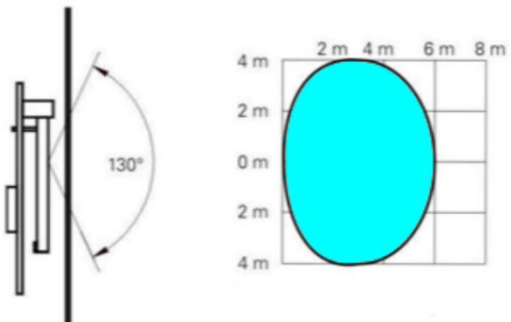

Figure 50 - Coverage from above – high sensitivity
2. Mount the receiver inside the SigmaGate 2 in the position marked in light blue on figure 50 below. Make sure the receiver is installed on the same side as the ITAB edge board if installed.